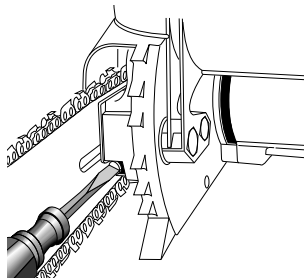
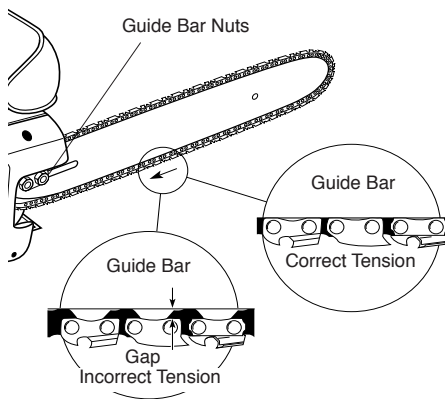

Figure 4 - Turning Adjusting Screw
Figure 5- Saw Chain Adjustment
2. Turn adjusting screw clockwise until all slack is out of chain (see Figure 4). **Note:** There should be no gap between side links of chain and bottom of guide bar (see Figure 5).